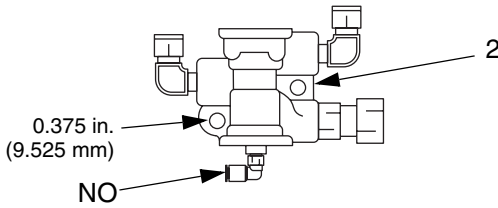

FIG. 4
1. Mount the shutoff valve (2) securely. FIG. 4.